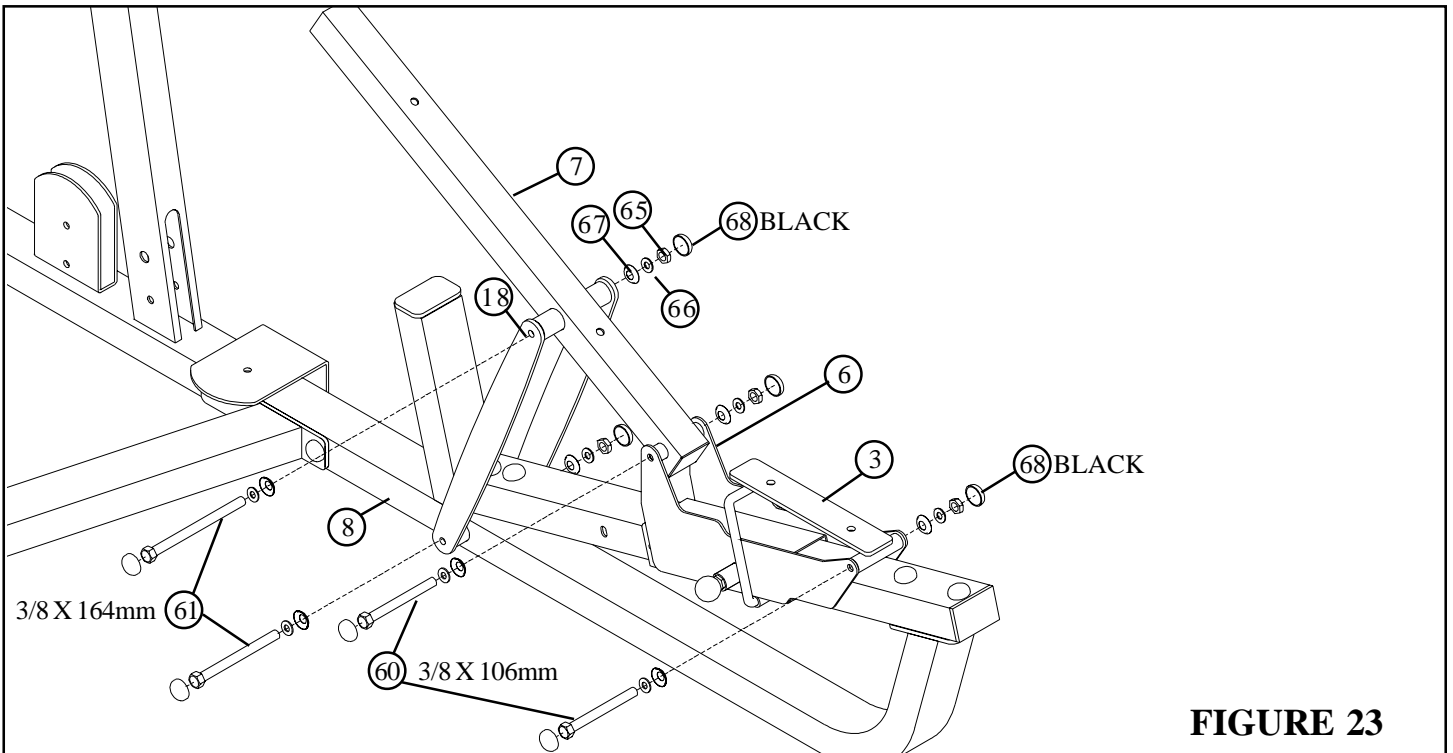

FIGURE 23
- **SECURELY** assemble the BACK PAD SUPPORT (7) to the MULTI PRESS SEAT ADJUST (6) using two BLACK RH CAPS (68), one 3/8 X 106mm BOLT (60), two 3/8" SAE WASHERS (66), two 3/8" RH WASHERS (67) and one 3/8" LOW HEIGHT LOCK NUT (65) as shown in FIGURE 23. **(NOTE: Tighten connections enough to remove slop, yet allow part to rotate freely.)**
- **SECURELY** assemble two MULTI PRESS PLATES (18) to the BACK PAD SUPPORT (7) and to the MULTI PRESS FRAME (8) using four BLACK RH CAPS (68), two 3/8 X 164mm BOLTS (61), four 3/8" SAE WASHERS (66), four 3/8" RH WASHERS (67) and two 3/8" LOW HEIGHT LOCK NUTS (65) as shown in FIGURE 23.
- **SECURELY** assemble the SEAT PAD SUPPORT (3) to the MULTI PRESS SEAT ADJUST (6) using two BLACK RH CAPS (68), one 3/8 X 106mm BOLT (60), two 3/8" SAE WASHERS (66), two 3/8" RH WASHERS (67) and one 3/8" LOW HEIGHT LOCK NUT (65) as shown in FIGURE 23. **(NOTE: Tighten connections enough to remove slop, yet allow part to rotate freely.)**